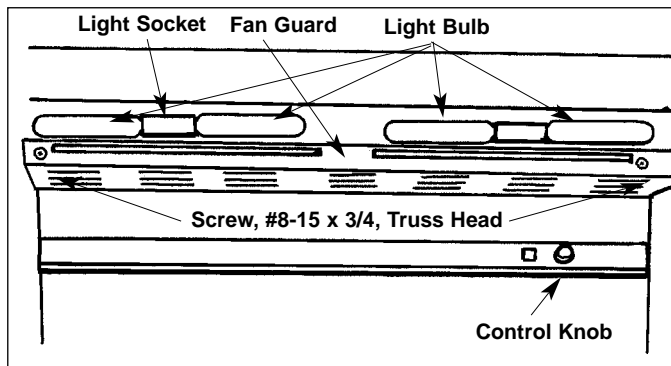

Figure 2-55. Fan Guard
2. Remove the two screws from the fan guard and lift out (Figure 2-55). Tilt the evaporator cover out at the top and lift off of the posts at the bottom.
2. Remove the two screws from the air diffuser and lift out (Figure 2-55). Tilt the evaporator cover out at the top and lift off of the posts at the bottom.